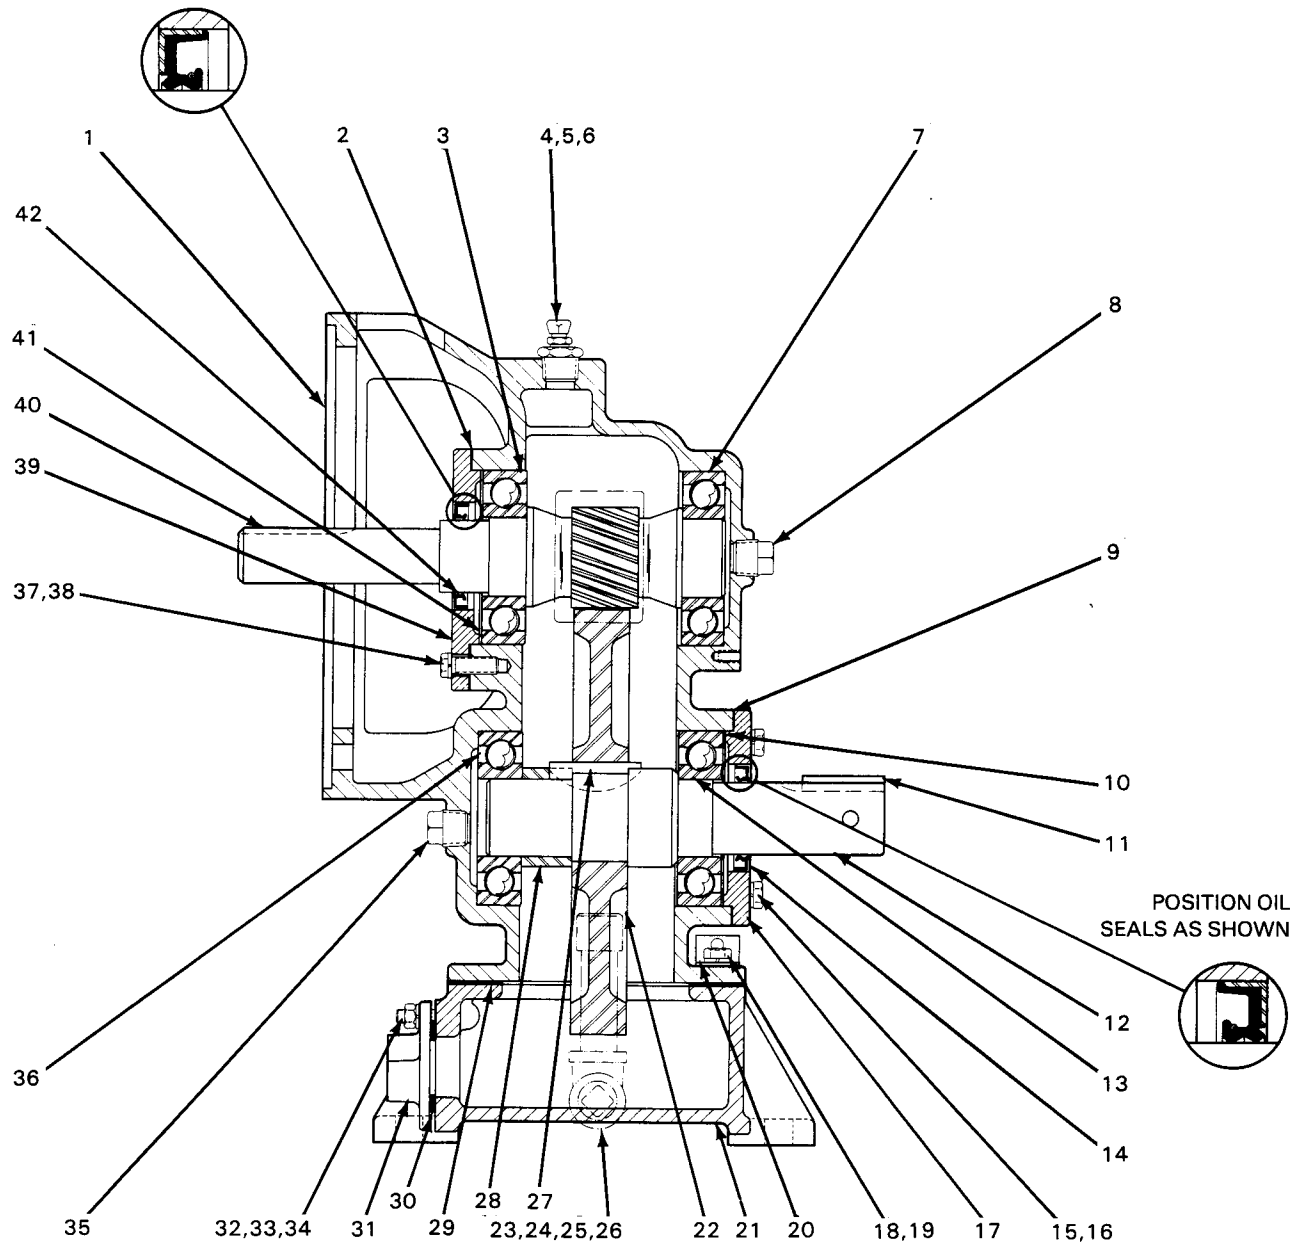

Figure 3. Gearbox Assembly 44161-031
See figure 3, and drain the gear box of lubricant by removing the gear box drain plug (24). Clean and reinstall the plug after draining the gear box.
See figure 3, and install the inboard drive shaft bearing in the gear box housing bore. Inspect the drive shaft, and replace as necessary. Install the helical gear key on the drive shaft, and introduce the drive shaft into the gear box housing. Engage the key in the helical gear keyway, and install the helical gear, making certain that it seats squarely against the shoulder of the drive shaft. Install the shaft spacer sleeve, and install the drive shaft in the inboard bearing. Install the outboard drive shaft bearing, making certain that it seats squarely against the shoulder of the shaft.
Install sufficient bearing shims to maintain a clearance of .005-.012 inch between the outboard drive shaft bearing and the outboard bearing cap, replace the bearing cap gasket (9), and install and secure the bearing cap. Inspect the oil seal, and replace as necessary. Install the oil seal with the lip positioned as shown in figure 3. Install the inboard pipe plug.
Install sufficient bearing shims to maintain a clearance of .005-.012 inch between the inboard pinion bearing and the inboard bearing cap, replace the bearing cap gasket (2), and install and secure the bearing cap. Inspect the oil seal, and replace as necessary. Install the oil seal with the lip positioned as shown in figure 3. Install the inboard pipe plug.